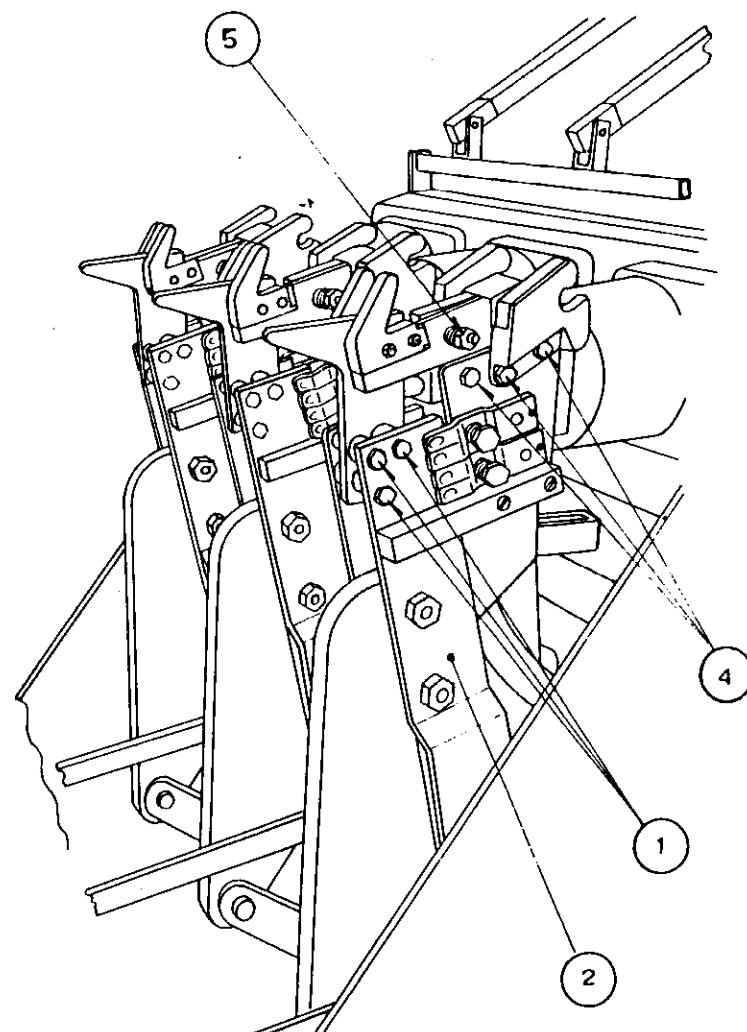

Fig. 14
- close the breaker (fig 14) and adjust the length of springs (5) to 11 mm approx.